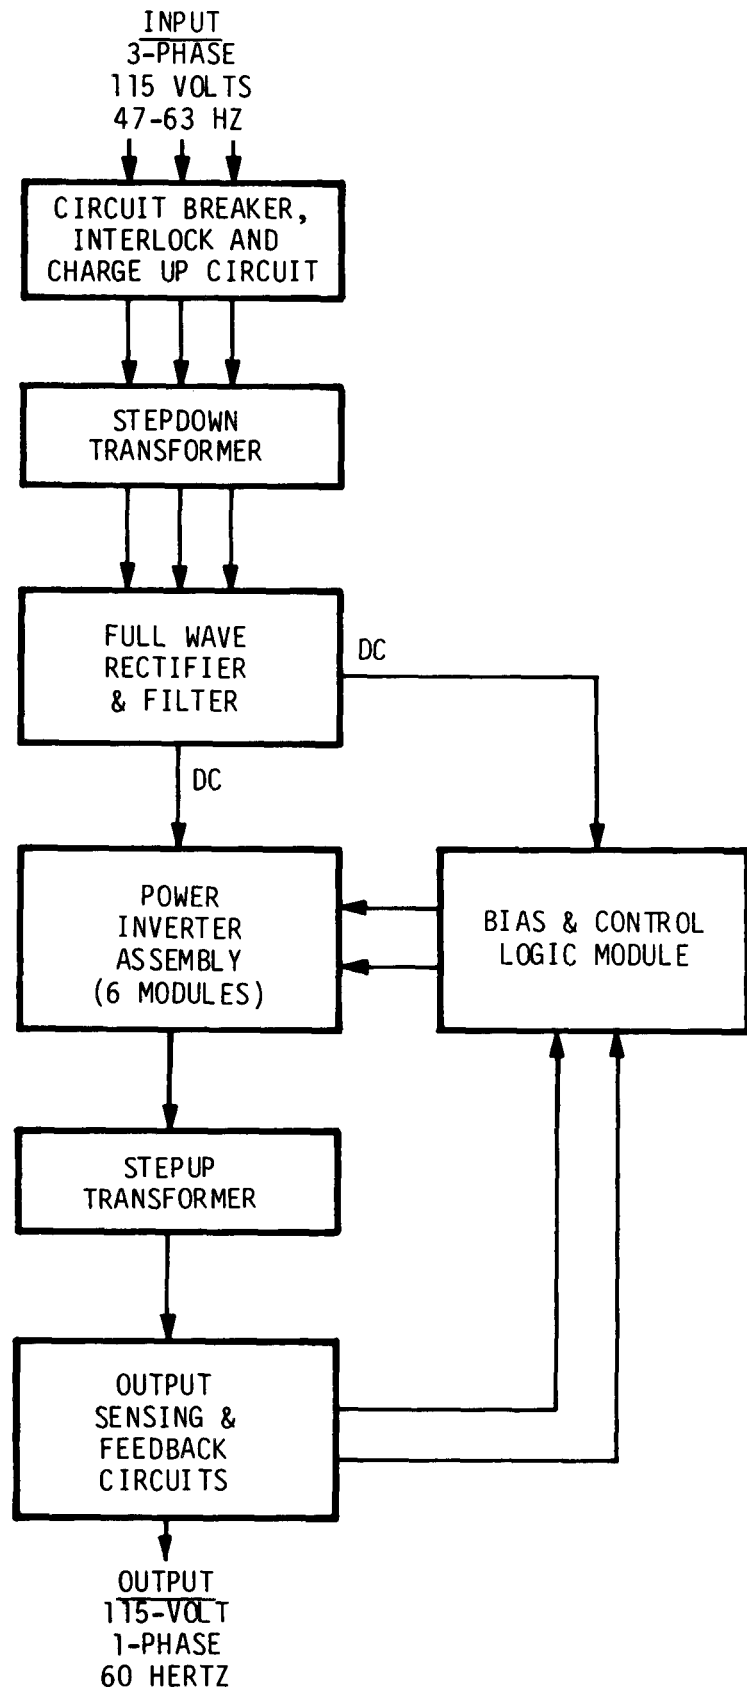

Figure 2-10. Frequency Converter Block Diagram
a. Frequency Converter. Incoming power passes through a 3-phase circuit breaker, door interlock relay, step down transformer, and a filtered full-wave rectifier circuit. The dc output is fed to six power inverters which are connected in parallel. These change the original incoming ac to a low voltage, and clean the 60 Hz sine wave. This output goes to a step up transformer that brings the voltage back to single phase 115 volts. The output sensing and feedback circuits sample, measure current and voltage, and feed back information to the bias and control logic module. This module regulates and controls the output of the six power inverters. The input circuit breaker acts as an ON-OFF switch, and also as power interrupter in case of an overload or a fault or when the door interlock is activated. The input voltage is reduced to about 12 volts, rectified by the six-diode rectifier, and filtered by a network before going to the power inverters. The power inverter creates a low voltage sine wave which is filtered, amplified, then applied to the output transformer. The combined output voltages of the six power inverter modules are transformed to 115 volts. Electromagnetic interference (EMI) filtering is provided in the secondary of the output transformer (fig. 2-10).